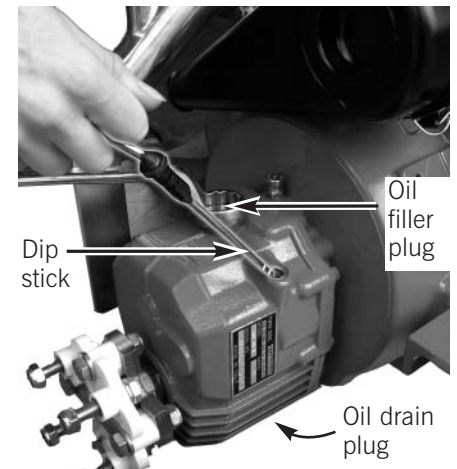

Fig 2e
- (1) The gearbox is fitted with a dipstick and oil filler plug, see fig 2e.
- (2) Each engine is supplied with a gearbox operators manual which specifies the type of lubricating oil to be used, the capacity and frequency of changing of the oil.
- (3) New engines are normally supplied with the gearbox topped up with lubricant but Check the level before starting the engine for the first time.
- (4) The oil can be changed via the drain plug at the bottom of the